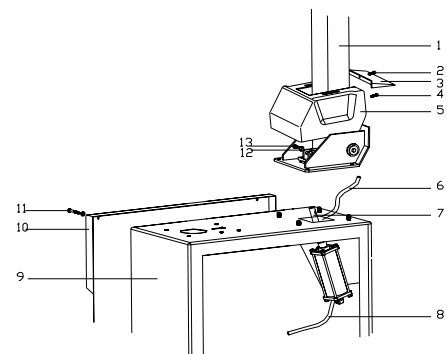

Fig 4
- 2) Place the column (1, Fig 4) on the body (9, Fig 4) with 4 bolts, push air hose (6, Fig 4) through the hole of the column. Tighten 4 self-locking nut.
- 3) Insert screw (13, Fig 4) into the hole of column and connect the pin (7, Fig 4) of the tilting cylinder, tighten it with self-locking nut (12, Fig 4).
- 4) Unscrew two screws (11, Fig 4) on the left cover (10, Fig 4) and remove the cover, connect air hose (8, Fig 4) from the column to 5-way valve union.
- 5) Fix the plastic cover (5, Fig 4) with two bolts (4, Fig 4).
- 6) Mount the plastic back cover (3, Fig 4) on the column with screw (2, Fig 4).